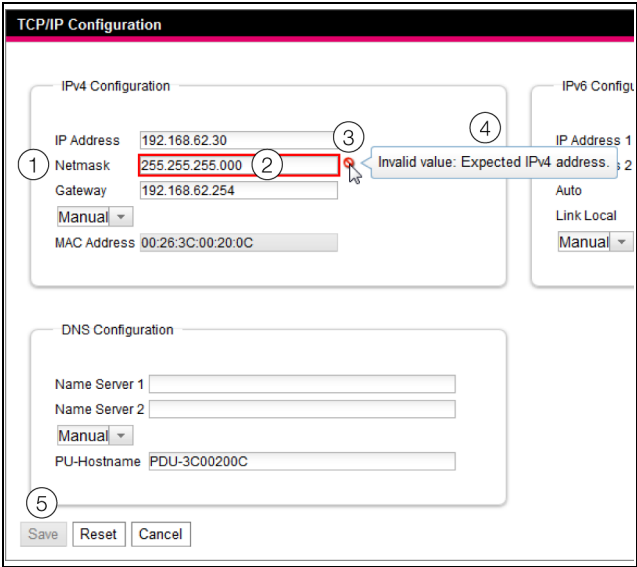

Fig. 53: Display of an incorrect entry
- A red "prohibited symbol" (fig. 53, item 3) appears after the incorrect entry (fig. 53, item 2) in the **Netmask** field (fig. 53, item 1).
- By hovering over the prohibited symbol with the mouse, additional information about the error will appear (fig. 53, item 4).
- The **Save** button is deactivated (fig. 53, item 5), so that the current values cannot be saved.